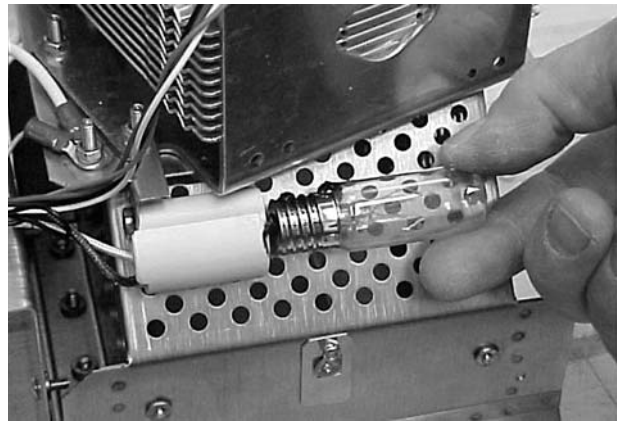

Figure 4-15 Starter Bulb Replacement
2. See Figure 4-15. Cut or remove the threadlocking material from the base of the bulb to remove the bulb.